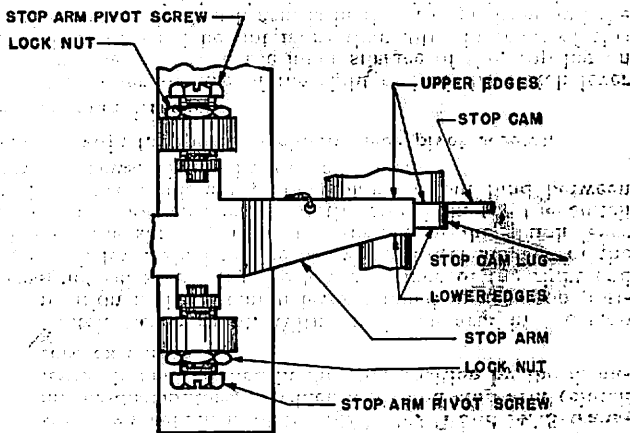

Fig. 4
4.05 Stop arm shall project above upper edge and below lower edge of the stop cam lug, as in Fig. 4 when engaging lug, and have slight vertical play without bind between pivot bearing screws. Gauge by eye and feel.